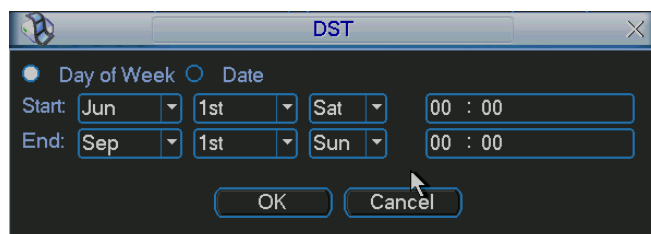

Figure 3-15
- DST: Here you can set DST time and date. Please enable DST function and then click set button. You can see an interface is shown as in Figure 3-15. Here you can set start time and end time by setting corresponding week setup. In Figure 3-15, enable date button, you can see an interface is shown as in Figure 5-5. Here you can set start time and end time by setting corresponding date setup.